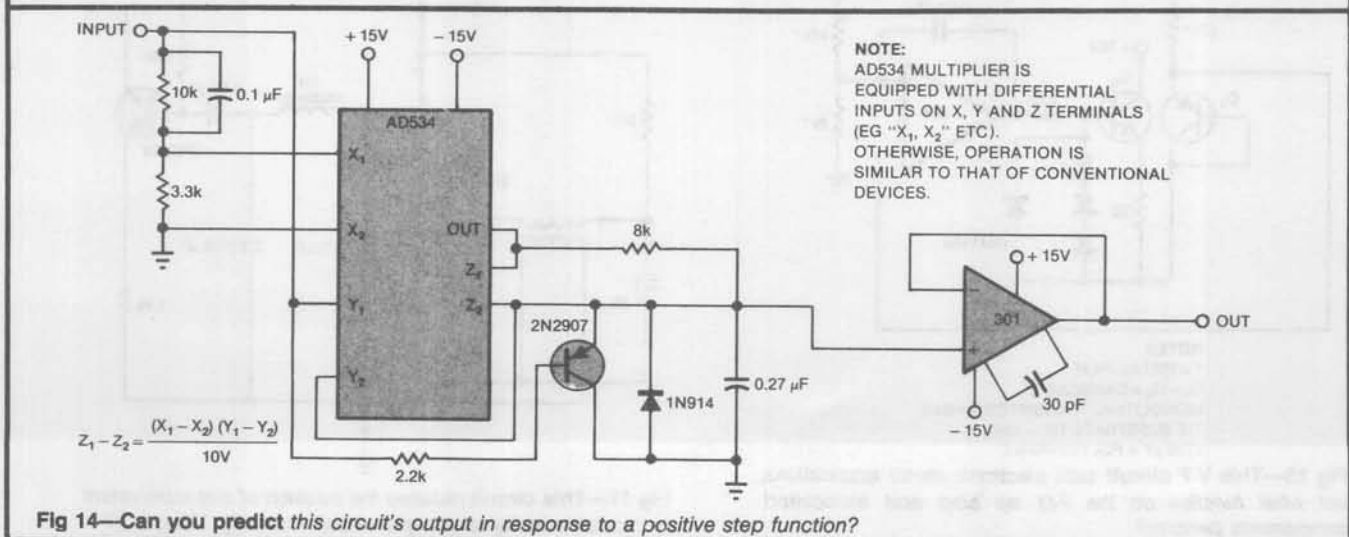

Fig 14—Can you predict this circuit's output in response to a positive step function?
19. In response to an input positive step function, what will be the output of the circuit shown in Fig 14? When the input steps back to zero, what will the output do?